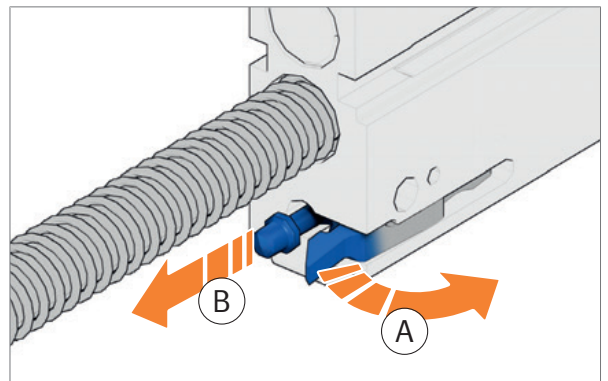

Fig. 107: Remove firing pin
4. Press firing pin safety to the side and hold it (Fig. 107).
5. Remove firing pin and pressure spring for firing pin from bolt head carrier (Fig. 107).